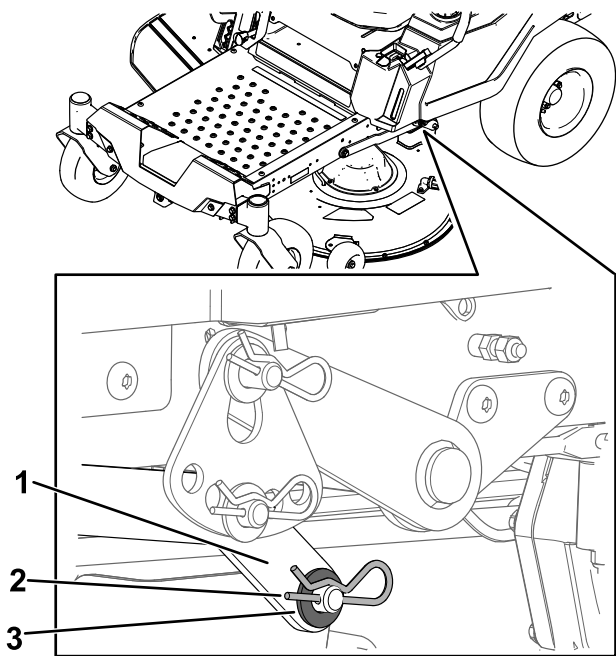

Figure 72
7. On 1 side of the machine, remove the washer and hairpin cotter from the deck pin (Figure 72).
8. Remove the lift arm from the deck pin (Figure 72).
5. On 1 side of the machine, lift the rear of the mower deck and install the lift arm to the deck pin (Figure 72).
6. Install the lift arm using the washer and hairpin cotter (Figure 72).